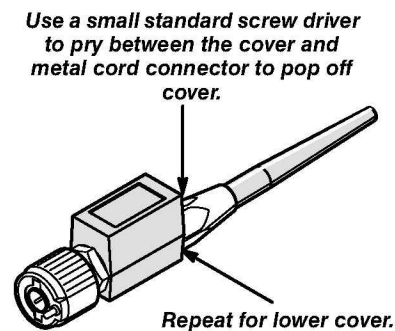

Figure 5-7: Exposing the Probe Body
- Follow the instructions in Figure 5-7 to remove the probe body covers.